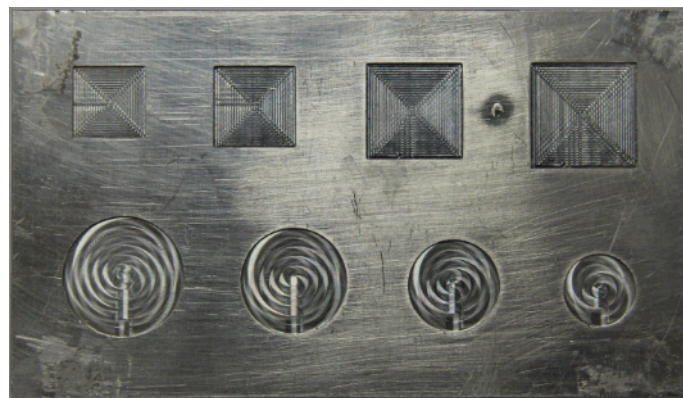

Figure 16. Bottom Side Of Metal Overlay With Spacer
2. A spacer incorporated into the conductive layer, consisting of etched blind holes in the bottom side of the metal overlay (see Figure 16).